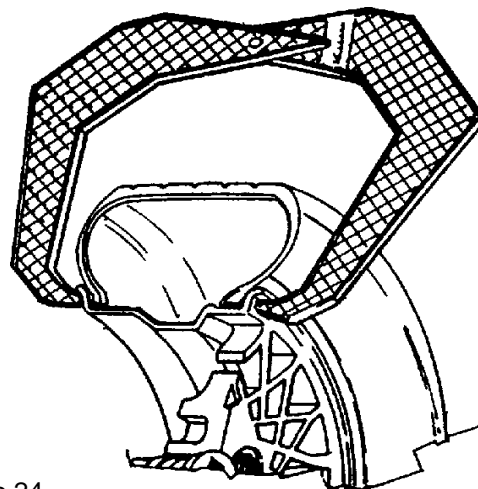

Figure 24
**4.5.3 Measure Rim Width** using rim width calipers. Measure wheel where corrective clip-on weight would be applied, Figure 24. Enter the measured width by pressing the **UP** or **Down** arrow button until the desired value appears in the center display.